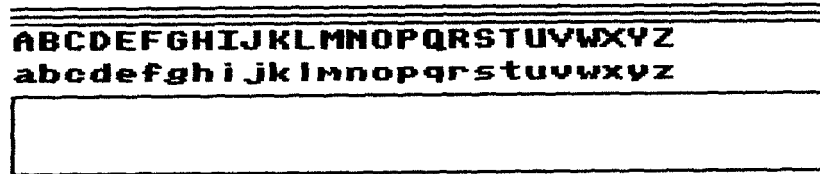

Figure 2-7 Printer Test Display
- ◆ Select **Printer Test** from the **Test Menu**. The external printer will print the test pattern (see Figure 2-7).